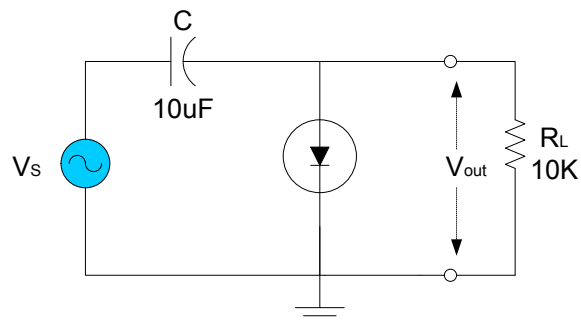
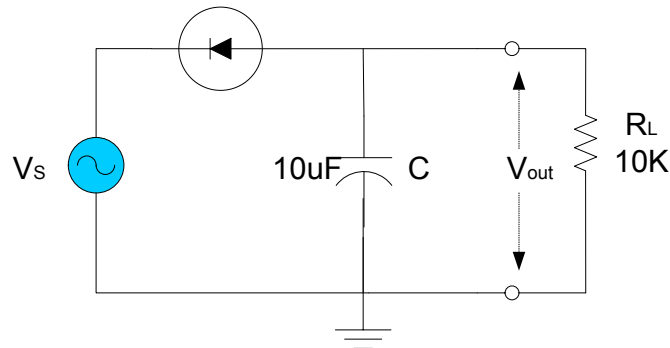

Figure 2
Figure 4
5. Keep the clamped capacitor circuit shown in Figure 2 as it is. Build a circuit by exchanging the position of capacitor and diode as shown Figure 4, sketch the output. Next